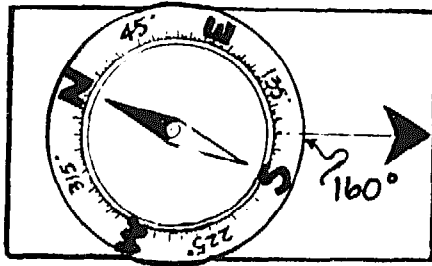

Figure 28
3. Read and note the bearing from the dial directly over the direction-of-travel arrow. The compass (Fig. 28) indicates that the tree is 160° east of magnetic north.